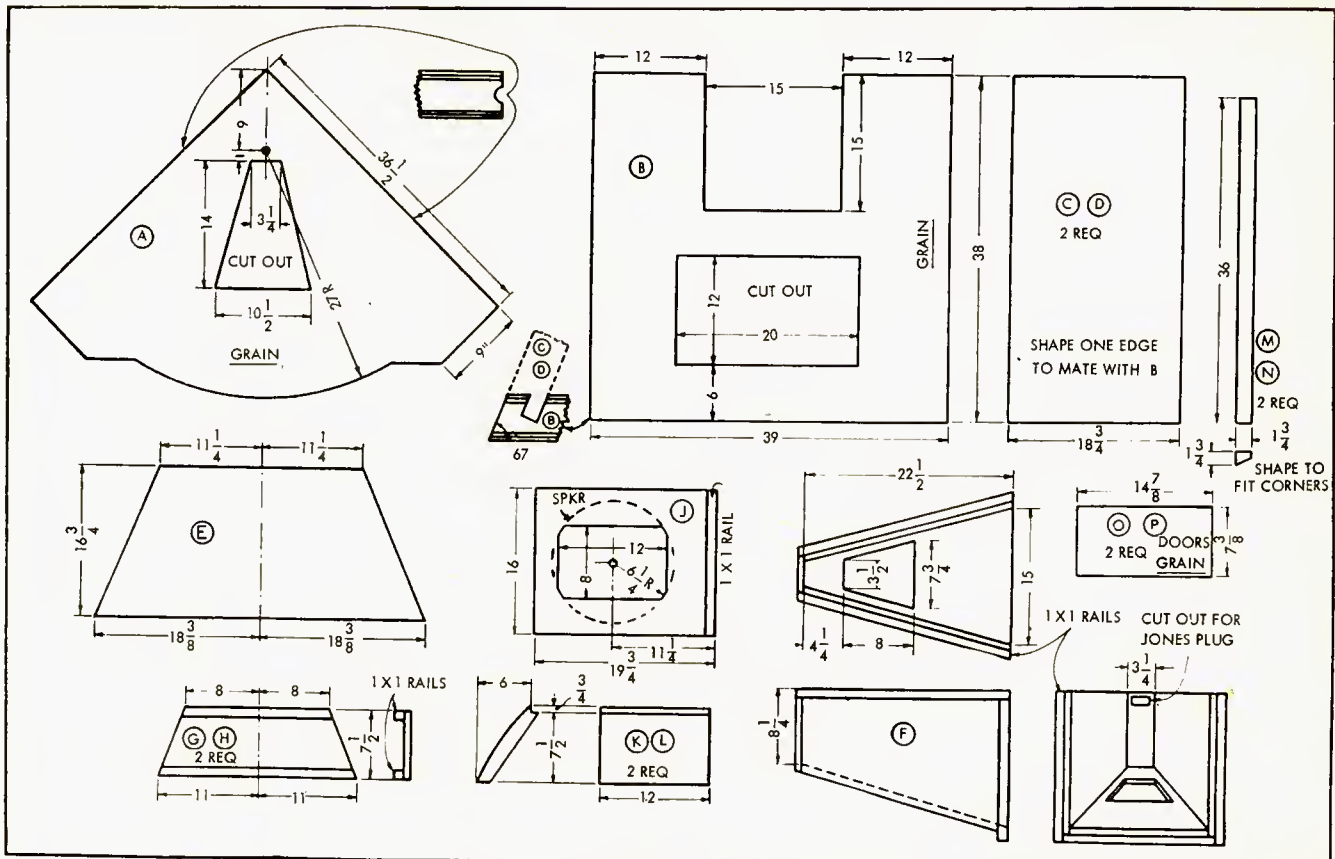

Fig. 4. Details of the pieces which comprise the lower cabinet, speaker well, and tube enclosure. Latter is for 12-in. tube, now almost obsolete.
Figure 4 shows the major parts used in the assembly of the low-frequency portion of the speaker, together with the housing for the picture tube. This housing is scaled for a 12LP4, which is obsolete by now. If a larger tube is to be used, the housing should be arranged to be large enough. However, it is felt that the majority will not combine TV with the speaker anyhow, and will simply omit the tube housing or else place the high-frequency horn at this point, with a suitable housing around it. Figure 5 shows one model with the high-frequency horn in a space at the top.
be described in the following pages, and the parts are not shown in Fig. 4. However, it might be well to plan on another veneered piece nearly as large as the top (A), since the grain should run parallel with the front of the cabinet. The two tops will cut readily from one panel of hardwood veneer.